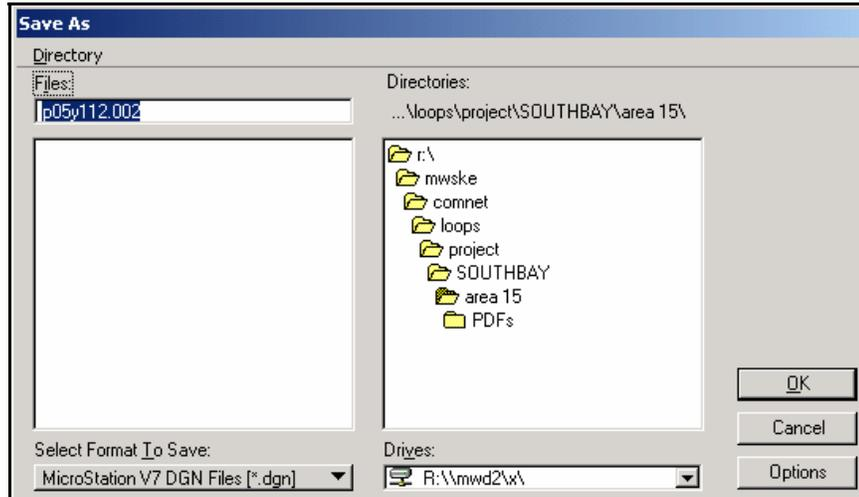

Figure 6
1. With the \*.001 file open in Microstation, Click File > Save As. The Save As dialog box will open. See Figure 6.